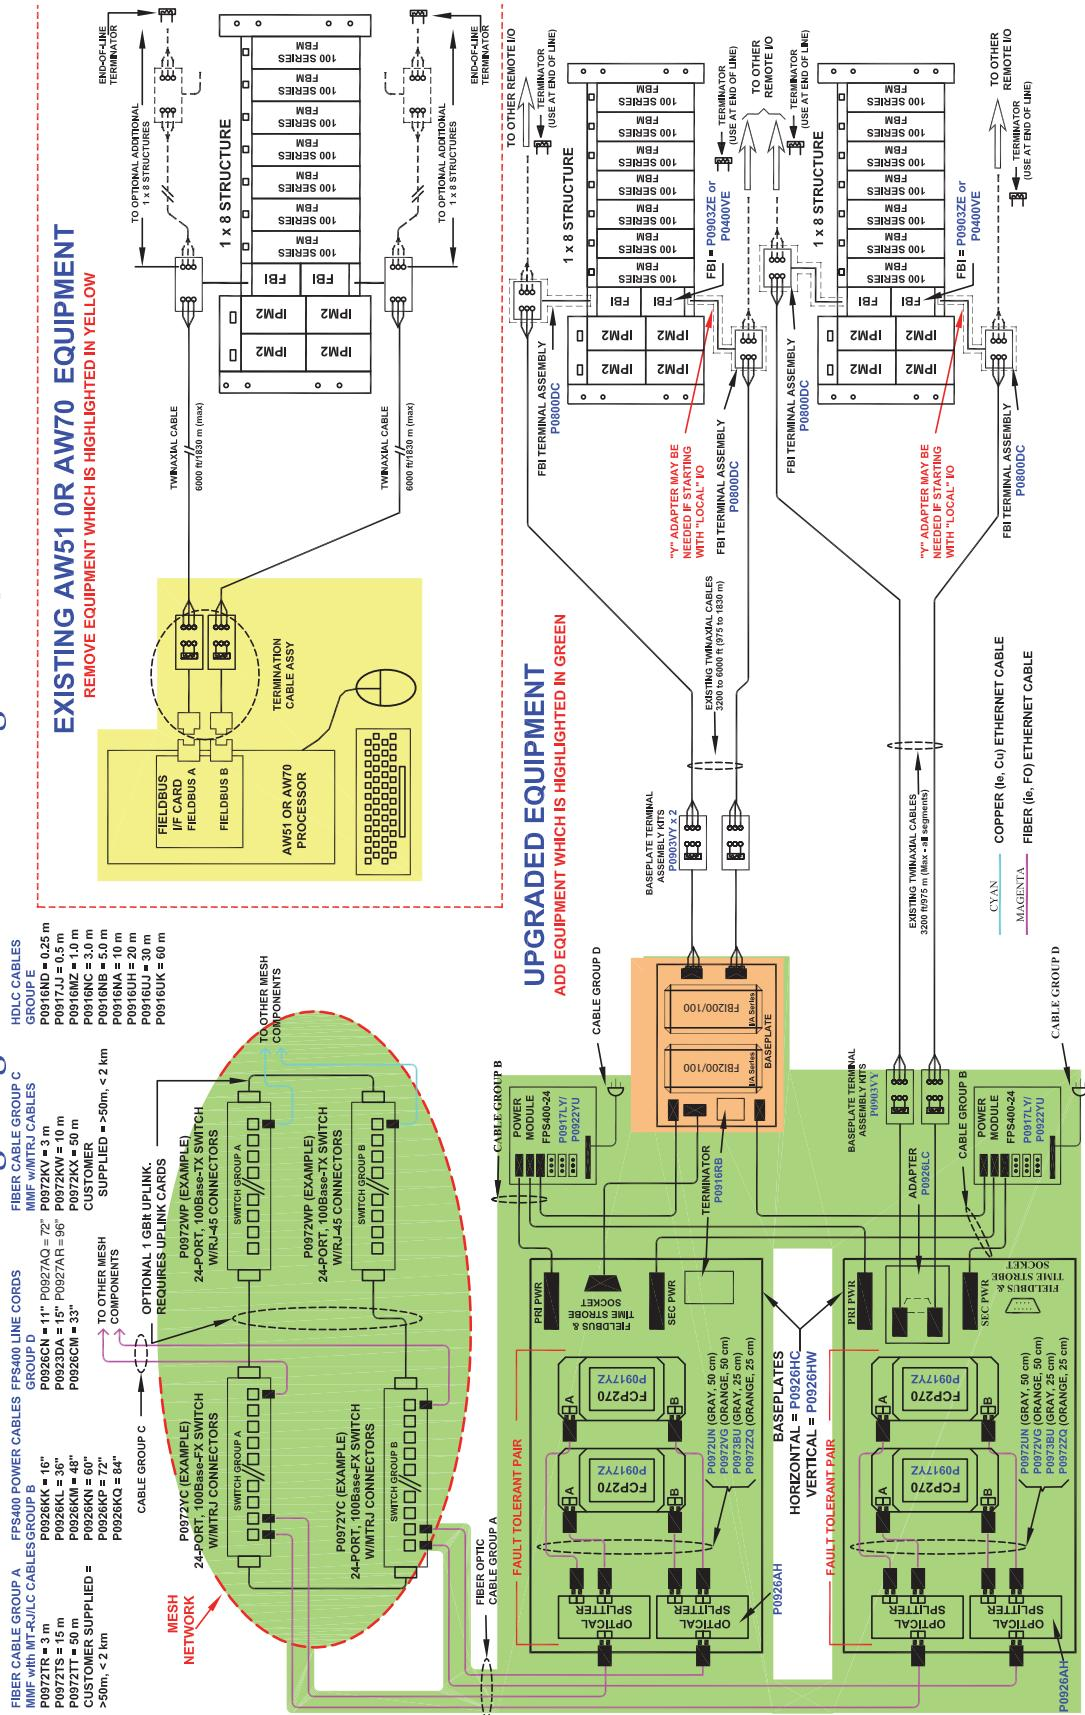

Figure A-9. Converting AW51/AW70 to FCP270s
- ◆ Figure A-9 “Converting AW51/AW70 to FCP270s” on page 92